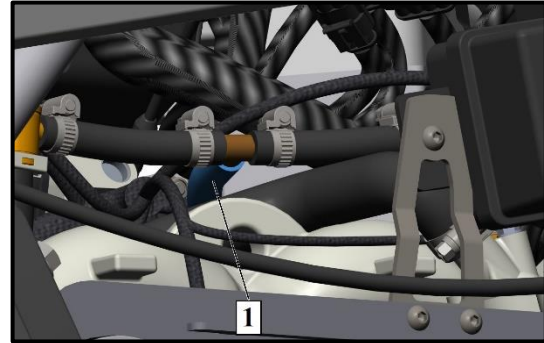

Fig. 14
6、 Remove the fuel hose (Position 1, Fig. 14) from the T-shaped fuel pipe fitting. Cover the hose with a safe hose clamp or close the hose opening with a hose plug.